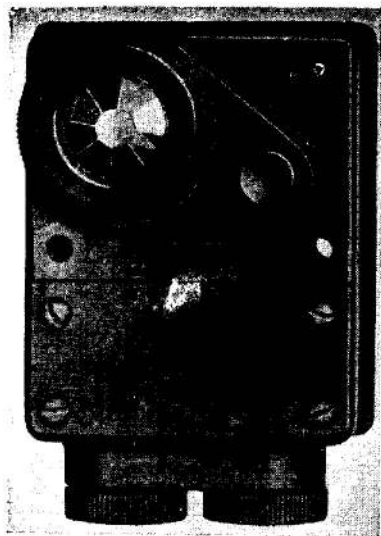

Fig. 1. Receiver box
2. The receiver box is illustrated in fig. 1. It incorporates a clear filament lamp protected by a clear lens on the front of the box, with a normally-open push-switch alongside. The lens is held in a screw-on holder fitted with a rubber sealing ring.